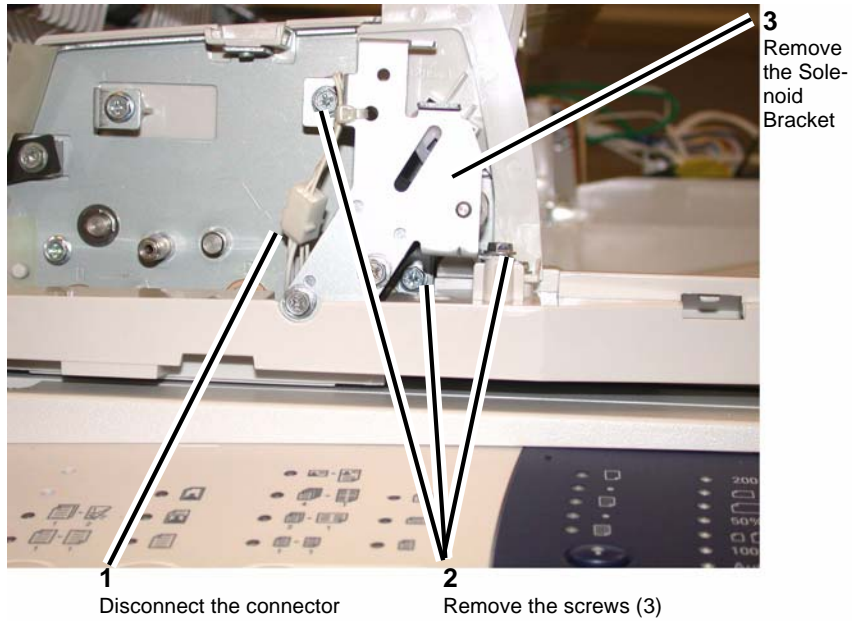

Figure 3 Remove the Eject Roller Solenoid Bracket
7. Remove the Screws at the front (Figure 3).